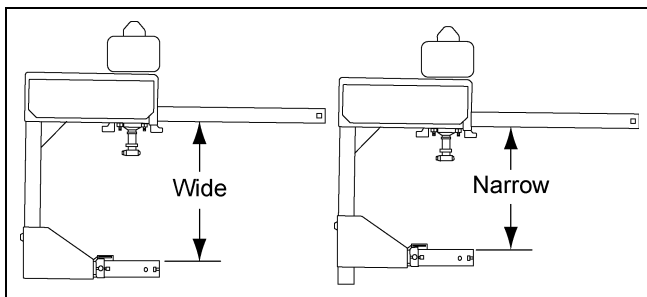
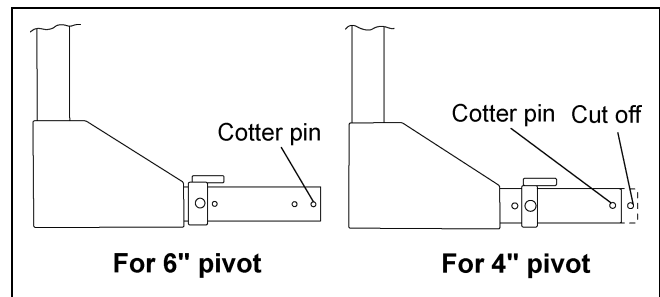

Figure 2
Figure 3
1. **Conversion Assembly:** Be sure the correct size pulley was ordered. To install it, remove the junction box covers and remove the 5/16" bolt. Slide the center drive arm out of the swivel and remove the upper snap ring and one washer. Slide the pulley onto the shaft with the hub up, then replace the washer and snap ring. (See Chart on Page 4.) Carefully slide the shaft up through the swivel so the wires are not pinched or nicked inside the swivel. Secure with the 5/16" hardware. Check the distance between the pivot tube and center of the drive pulley. Adjust it if needed by removing the two bolts in the rectangular tube. (See Chart on Page 4 and See Figure 2 to determine narrow or wide spacing.) Measure the inboard frame pivot, if it is 6" long, bolt the pivot stop in the back hole. If it is 4" long, bolt the pivot stop in the front hole, and cut off 1-1/4" of the pivot tube, leaving about 3/8" past the inside small hole for the cotter pin. (See Figure 3.)